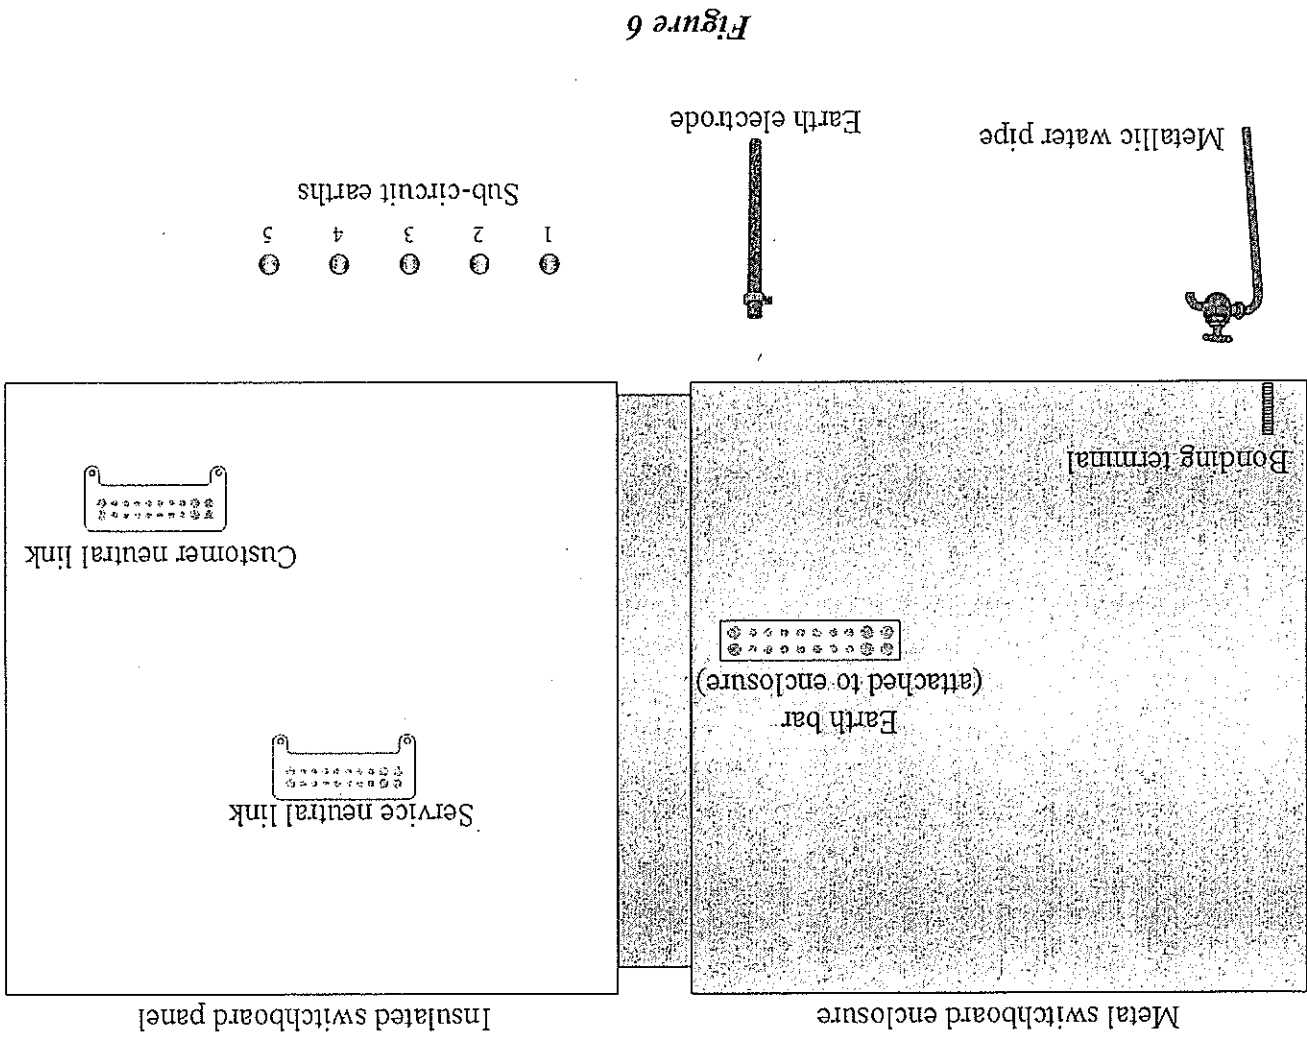

Figure 6
The diagram of *Figure 6* following represents the main switchboard in a domestic installation. The diagram also shows five (5) final sub-circuits (earthing conductors only) that the switchboard supplies. Note that the diagram does not show all equipment the switchboard supplies. Details of the installation are as follows: